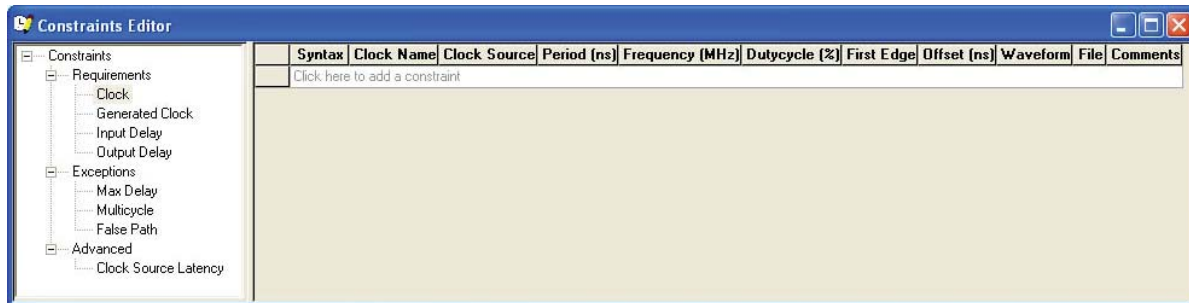

Figure 54 • SmartTime Constraints Editor
1. Open the SmartTime constraints editor by clicking the **Constraints Editor** button in the Designer GUI. The clock constraint is visible in the SmartTime Constraints Editor, as shown in Figure 54.